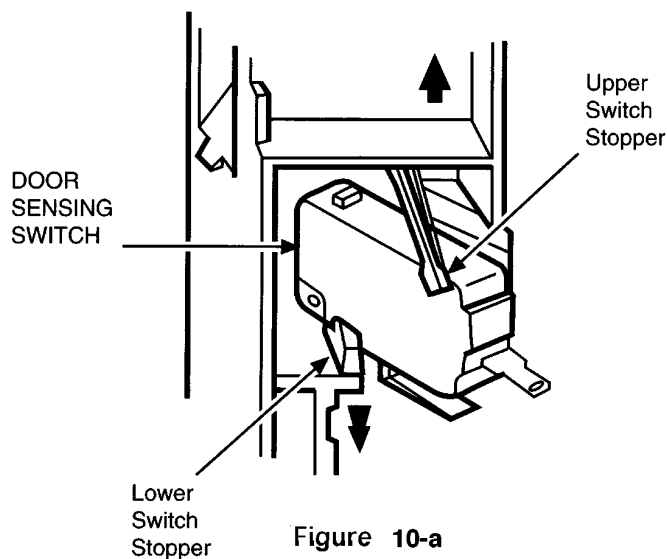

Figure 10-a
- (4) Then remove it by lightly pressing the switch toward you. (Figure 10-a)
- (5) Make necessary adjustments or replacements of the door sensing switch by reversing step (3) and check microwave energy leakage according to "1. ADJUSTMENT PROCEDURES" on page 1, after it is replaced with new one, and check proper operation of it according to "CHECKOUT PROCEDURE FOR SWITCHES" on page 6.